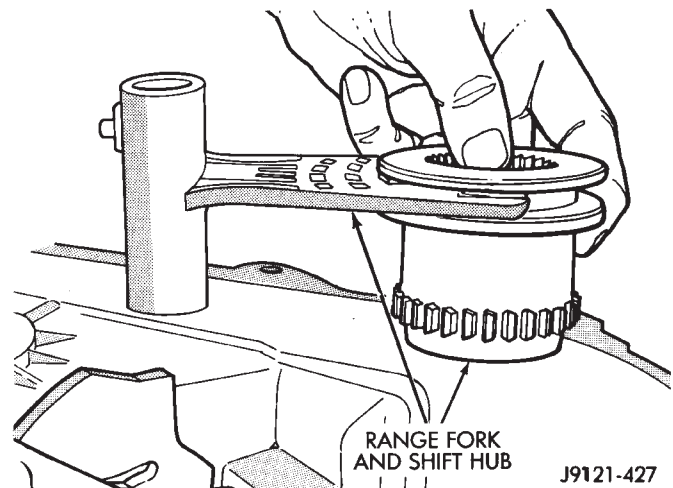

Fig. 51 Assembling Range Fork And Shift Hub
(6) Assemble range fork and shift hub (Fig. 51).